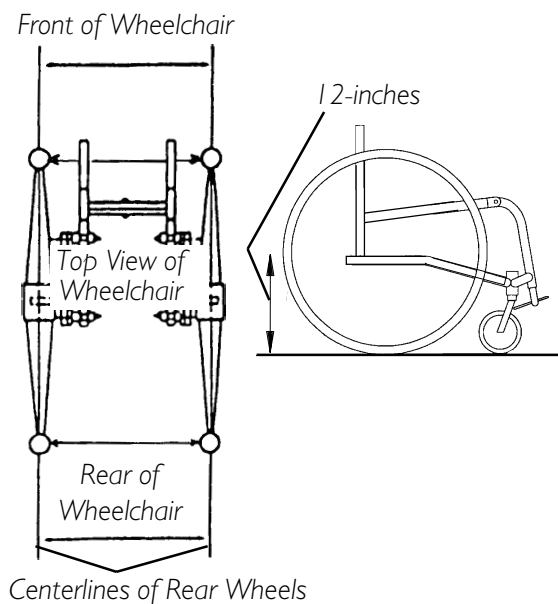

FIGURE 8 - DETERMINING TOE IN/TOE OUT - MEASURING CENTERLINES OF REAR WHEELS
DETERMINING TOE IN/TOE OUT (FIGURES 8 AND 9)
2. Measure the distance between the centerlines at the rear and front of the rear wheels at approximately 12-inches from the ground/floor (FIGURE 8).